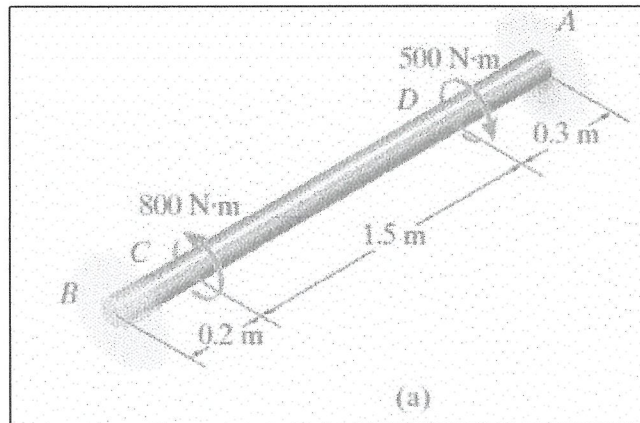

Figure Q6 (b)
- (b) A solid steel shaft shown in **Figure Q6 (b)** has a diameter of 20 mm. If it is subjected to the two torques, calculate the reactions at the fixed supports A and B. (8 marks)